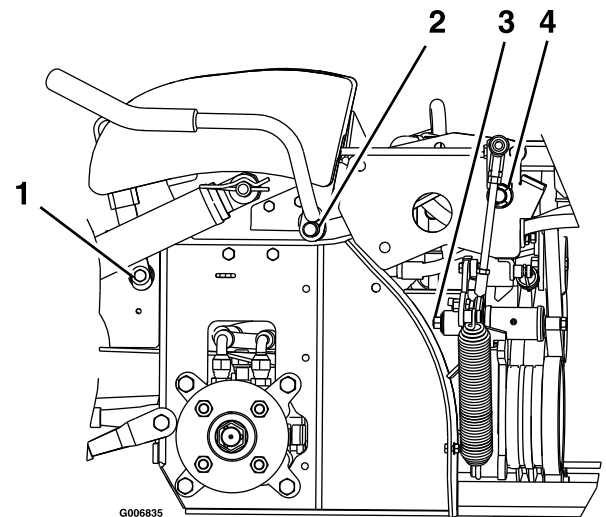

Figure 33
3. Lubricate the bronze bushings on the brake-handle pivot with a spray type lubricant or light oil (Figure 33).